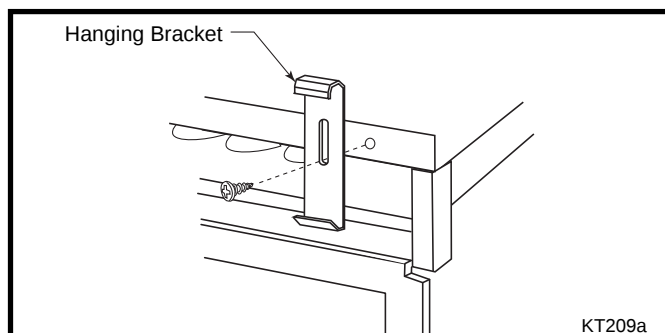

Fig. 63 Hanging bracket alignment.
- Install the hanging brackets, as shown in Figure 63.